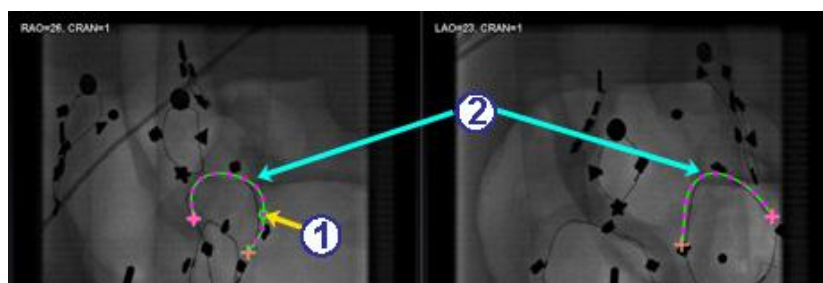
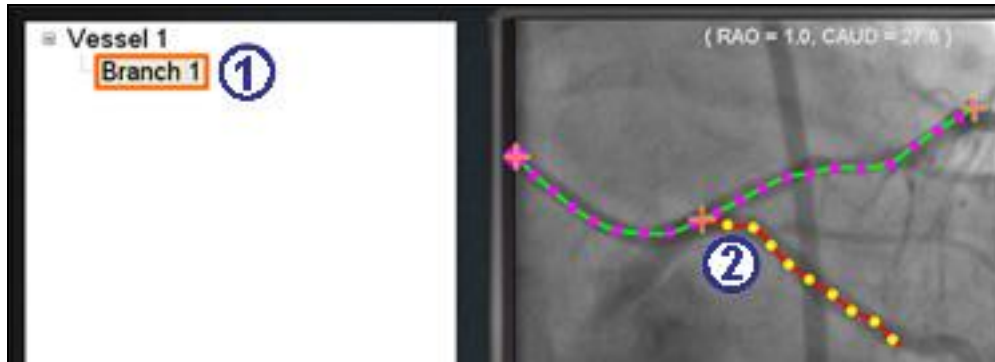

Figure 174. Select branching point on one trunk
Figure 175. Branch name displays after selecting branching point
- ① To add branches, start with a pair of complementary trunks.
- ② Click **Add Branch**.
Step 2 (Figure 174)
- ① The user should select the point on the trunk where they wish to start the branch (**Figure 174**). The point can be existing or somewhere on the curve. If it's on the curve, a new point is created. The selected point is indicated by a green circle.
- ② Notice the trunks are now in the unselected mode, as evident by the green and purple (magenta) colors. The focus has changed to the branch about to be drawn.
Step 3 (Figure 175 and Figure 176Error! Reference source not found.)
- ① A default branch name {Branch #} displays in the directory window after clicking a starting point (**Figure 175**). (The user can rename branches and trunks the same way.) The branch being drawn is in drawing mode (red and yellow).